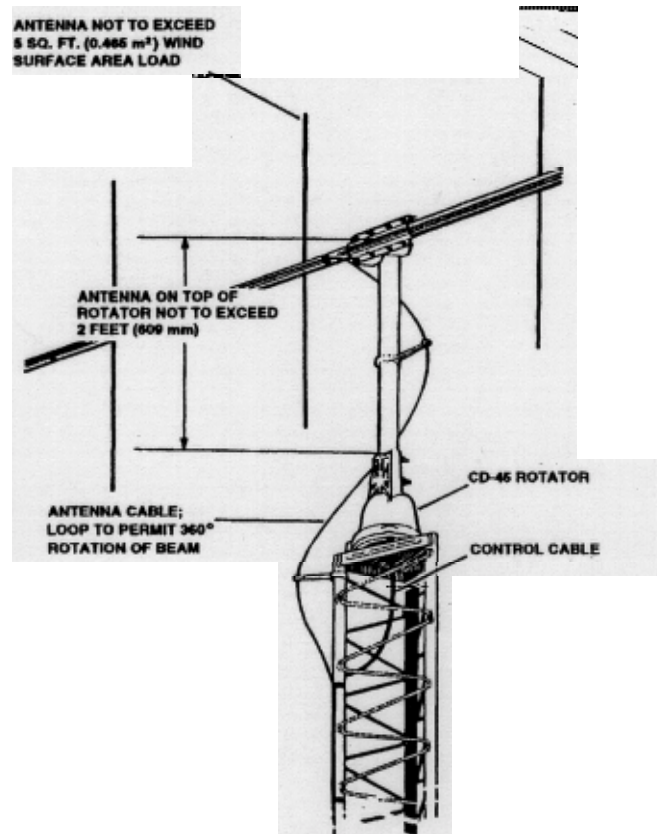

Figure 7 Rotator Mounted on Tower Top Plate
2. An "Outside" Tower Mount, as per Figure 7, is the best type of installation when not using an inside tower mount. The rotator is not as well protected but the installation is simpler.
2. The rotator is attached to the tower plate by means of four bolts and lockwashers (see Figure 7). Spacer washers must be used between the rotator and plate for clearance of the rotator housing bolt heads. The flat tower plate must be drilled in four places using the template provided with this manual unless the tower plate is already properly drilled. A fifth hole must be drilled to cut to clear the control cable.
4. Assemble the mast and antenna to the top of the rotator using the U-bolts, nuts and lockwashers through the rotator and clamps as shown in Figure 7. The maximum mast diameter that may be used is 2 1/16" O.D.. Turn the antenna by hand until the director is pointed North, then tighten the U-bolts securely.
6. Connect the antenna cable to the antenna (follow manufacturer's recommendation). Make sure you have enough slack for the 360° rotation. (the antenna rotates "S" to "E" [counterclockwise] on the first turn, therefore, slack should wrap counterclockwise around the mast.) See Figure 7.